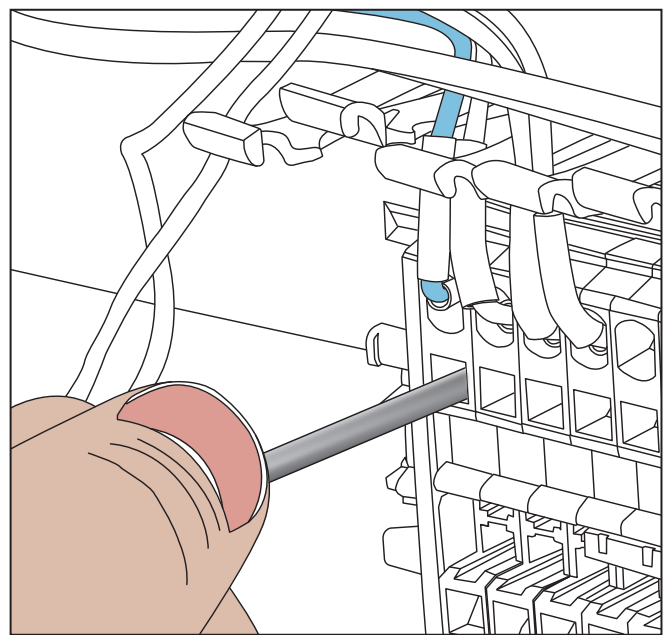

Figure 23
19. Insert the wire into the terminal block, and then slowly remove the screwdriver (see **Figure 23**).